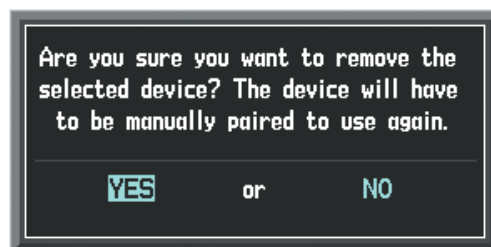

Figure 8-127 Device Removal Confirmation
- 3) Press the **REMOVE** Softkey. A confirmation screen is displayed as seen in Figure 8-127.